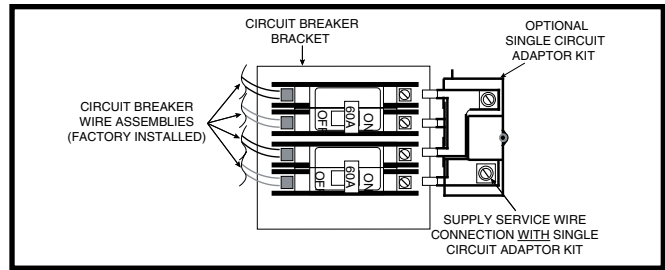
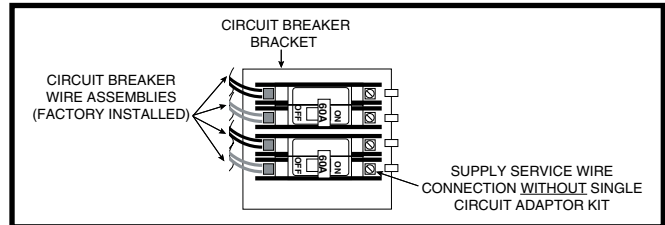

Figure 17. Optional Single Circuit Adaptor Kit
Figure 18. Installation of Supply Service Wires
- -012 models are factory-wired for single-branch supply circuit (single-circuit kit factory installed). Dual-branch circuit can be used by removing factory-installed single-circuit kit. See Figure 17.
4. Insert supply service wire(s) through cable connector(s) and connect wires to circuit breakers (Figure 17 & Figure 18). **NOTE:** To install single-circuit kit, perform step 5. If single-circuit kit installation is not needed, go to step 6.